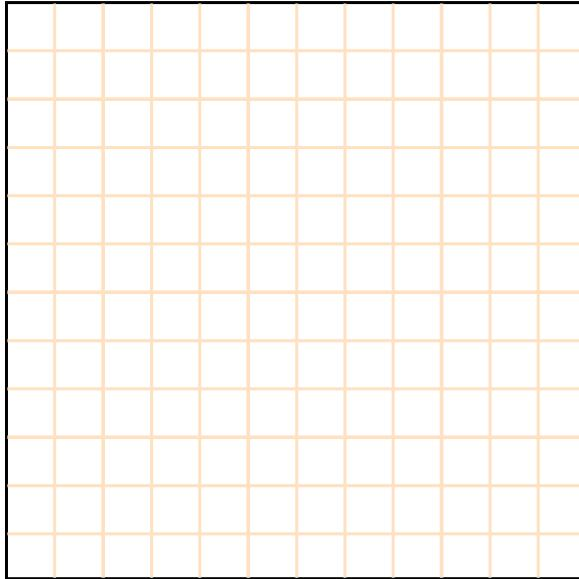

Figure 1-15. With and without voltage boost characteristics.
29. For all voltage setpoint values shown in Table 1-11, determine the corresponding voltage output (U) displayed by the AC Drive. Enter your results in the With voltage boost column in Table 1-11.
31. Plot the curves With and Without voltage boost characteristics in Figure 1-15. Place the Frequency in the X-axis, and the Output voltage (U) in the Y-axis.